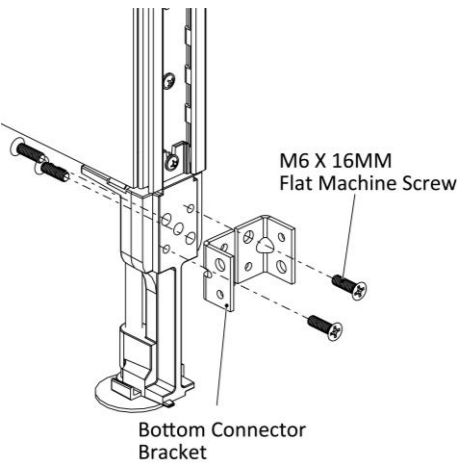

Figure 9
- 18. Install two bottom corner brackets to the panel leg of the fourth panel with M6 X 16MM Flat Machine Screws, (Figure 9).